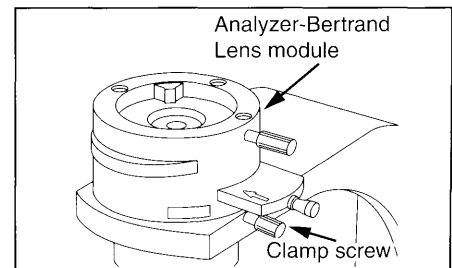
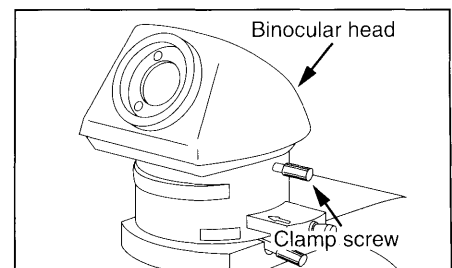

Figure 1
Figure 2
- As a first step, remove all components from the shipping container and remove the packing materials and place the microscope frame on a stable work surface. Place the analyzer-Bertrand lens module onto the frame and tighten the clamp screw to secure the module. (Fig.1) Next, place the binocular head (MA952) or trinocular head (MA953) on the top of the analyzer-Bertrand lens module and tighten the clamp screw while the head is in the correct position as shown right. (Fig.2)